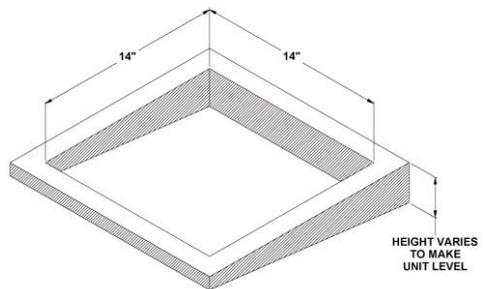
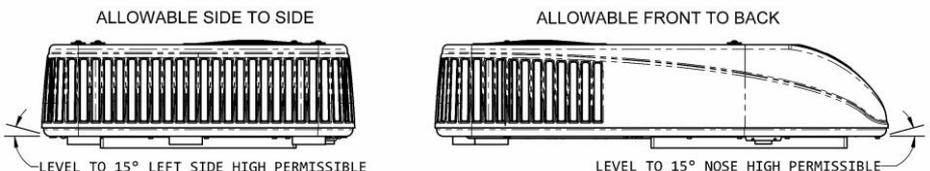

Figure 2
Figure 3
- C. The roof top heat pump must be mounted as near level front to rear and side to side as possible when the vehicle is parked level. Figure 3 shows the maximum allowable degree deviations mounting degrees from total surface flat plane). If the roof of the vehicle is sloped such that the heat pump cannot be mounted within the maximum allowable degree deviations, an exterior leveling shim will need to be added to make the roof top heat pump level. A typical leveling shim is shown in Figure 2.